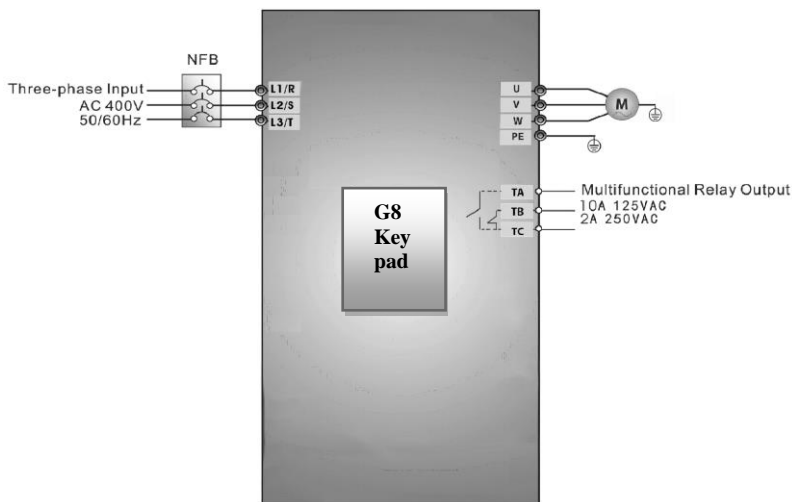

Figure 5-1 Wiring Diagram 1
- (1) Connect the wires in accordance with Figure 5-1. After having checked the wiring successfully, switch on the air switch, and power on the inverter.
- (2) Press the “Fun” key, to enter the programming menu.
- (3) Measure the parameters of the motor